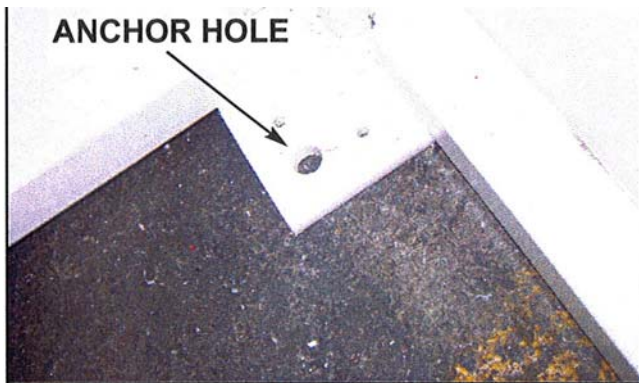

Figure 6
## Anchoring & Bracing - See Figures 6, 7, and page 5
1. Anchor four corners inside of lift. You may want to do this after carriage is raised to upper location. See Figure 6.